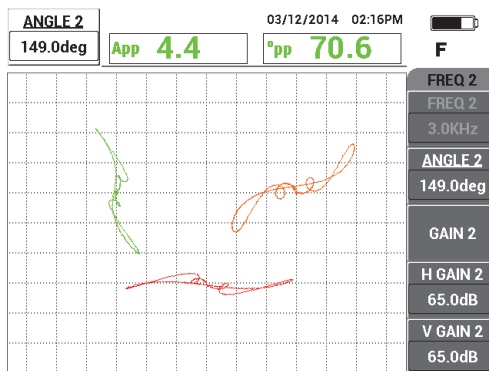

Figure 5-142 Adjusting the angle of the frequency 2 signal on the support ring
8. Press the ANGLE key (◁) twice, and then set the support ring's frequency 2 signal angle (red) so that it is nearly horizontal (see Figure 5-142 on page 227).